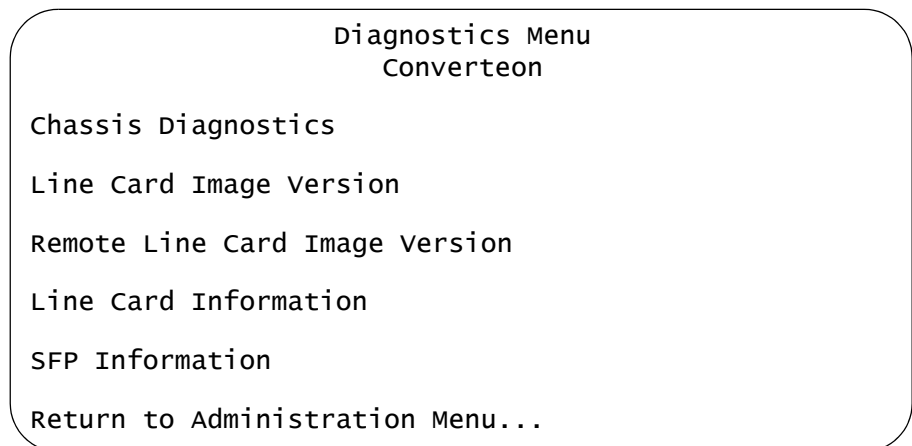

Figure 45. Diagnostics Menu
2. From the Administration Menu, select **Diagnostics**. The Diagnostics Menu is shown in Figure 45.